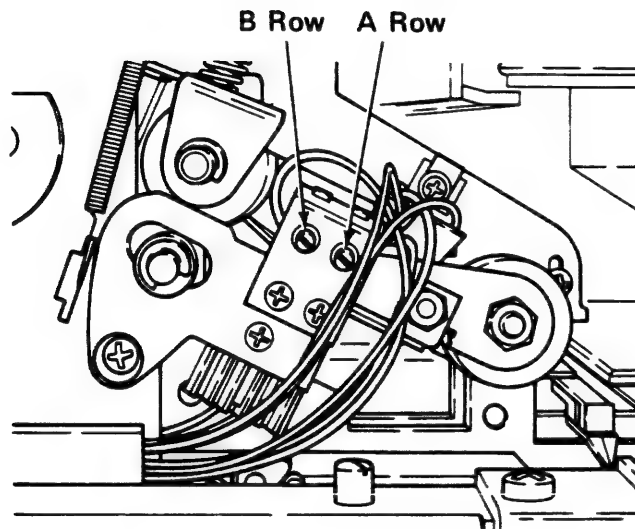
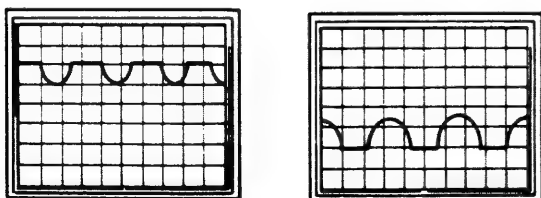

Figure 3-5D
Figure 3-5E
7. Turn the B Row Sensor Adjustment Shaft (Figure 3-5D) clockwise while observing the scope. Stop turning when the waveform begins to distort and decrease in size (Figure 3-5E).
11. Repeat Steps 7 through 9 but turning the A Row Sensor Adjustment Shaft (Figure 3-5D).